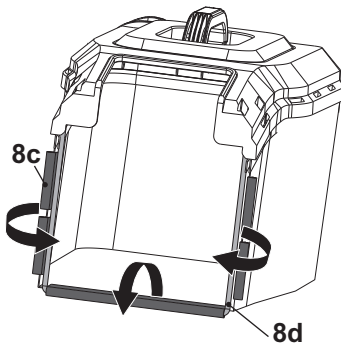

Fig. 5
1. Clip the three rubber clips (8c) to the supporting rod (8d) of the grass catcher (8) (Fig. 5).